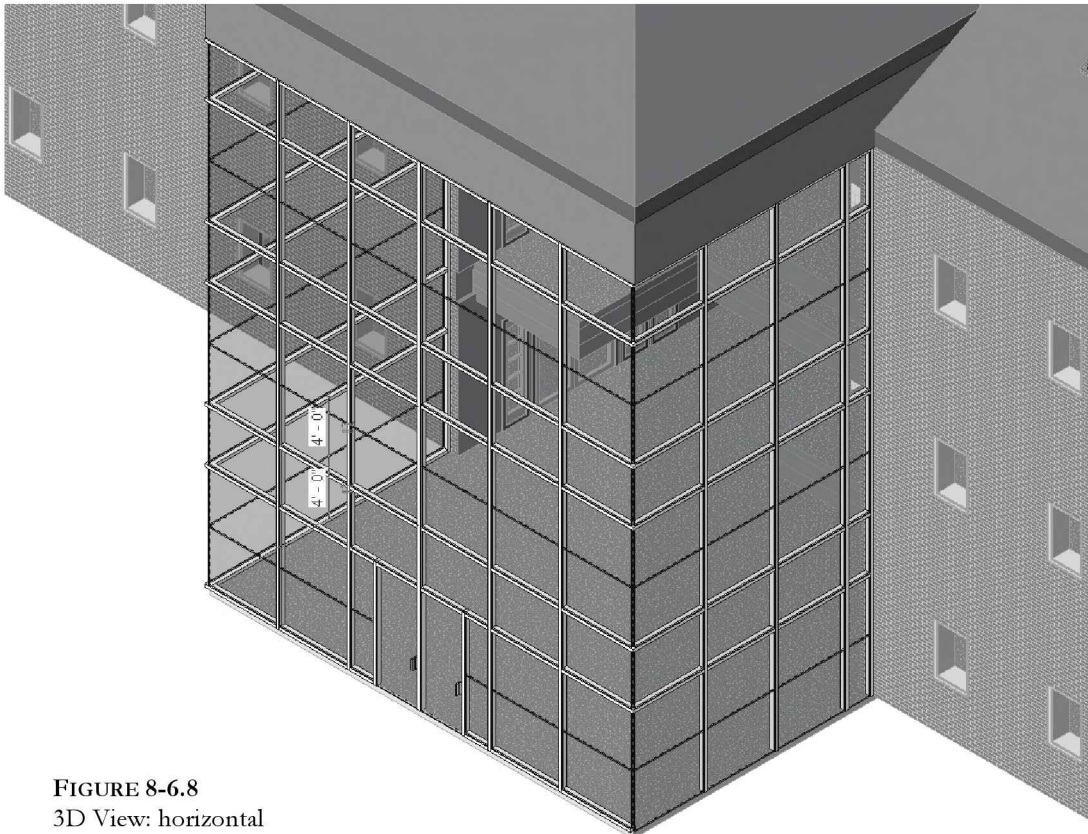

FIGURE 8-6.8
15. Using the **Curtain Grid** tool on the *Modeling Tab*, add horizontal lines equally spaced between the larger vertical spaces as shown in Figure 8-6.8 (you should be able to place all the grid lines from this one view angle).
17. Select *Rectangular Mullion: 2.5" x 5" rectangular* from the *Type Selector* (Figure 8-6.8).